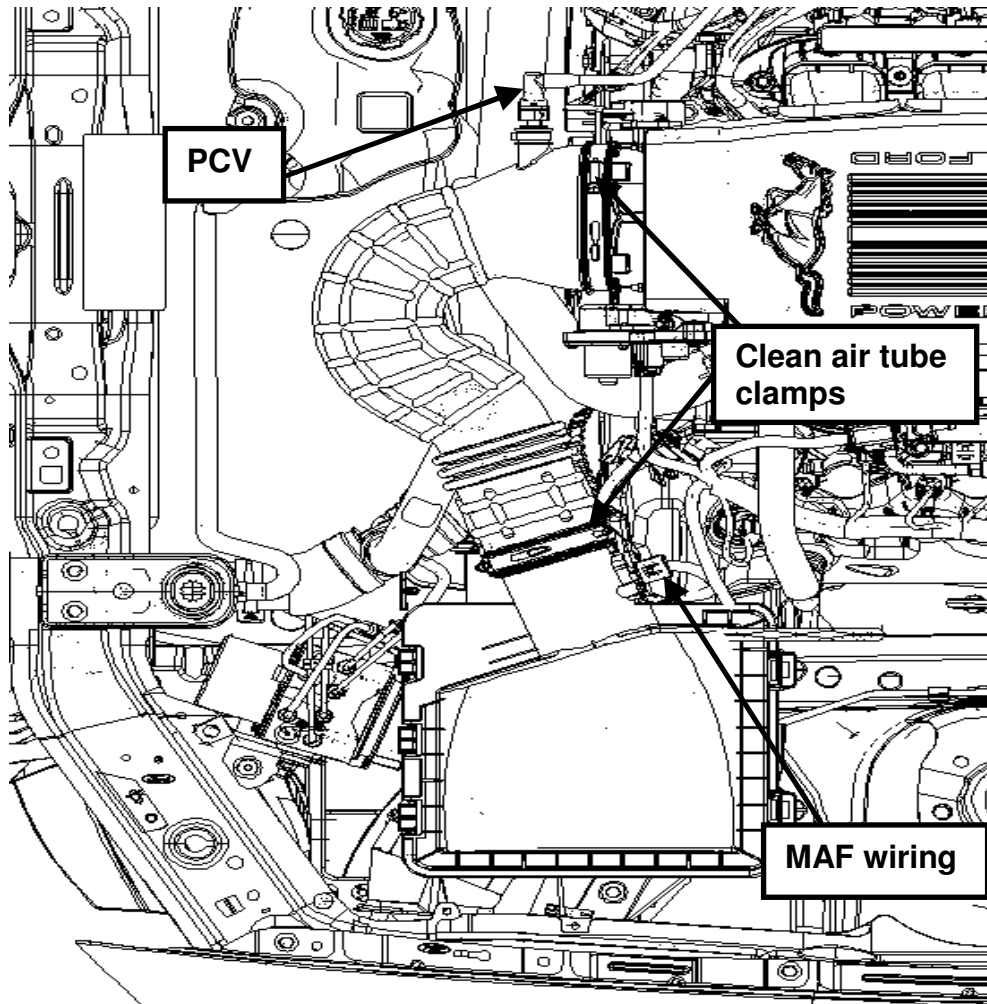

Fig. 1
STEP 3: Disconnect the MAF wiring from the airbox. Loosen the clean air tube clamps and disconnect the clean air tube from the airbox and throttle body (See Fig. 1).
STEP 4: Disconnect PCV tube and remove clean air tube (See Fig. 1).